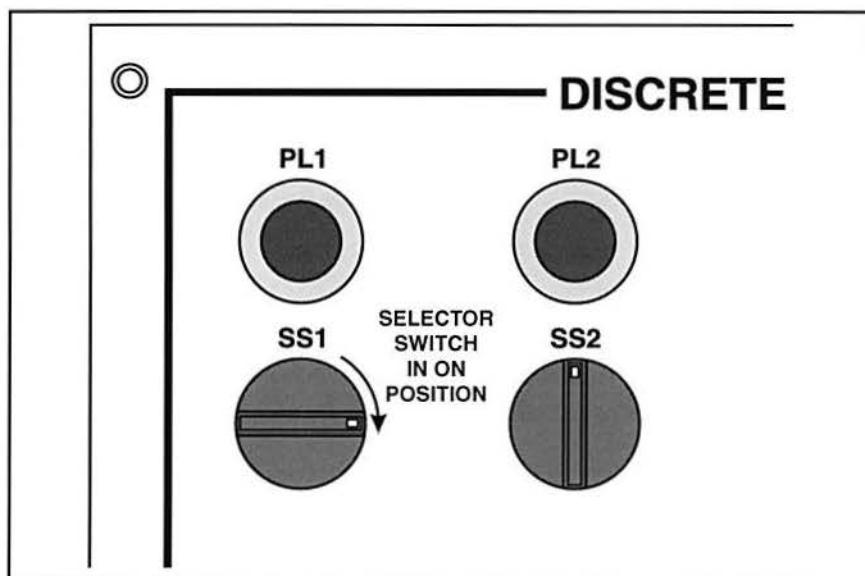

Figure 54. SS1 in the ON Position
- B. Turn **SS1** clockwise to the **ON** position, as figure 54 shows, to start the circulation pump.